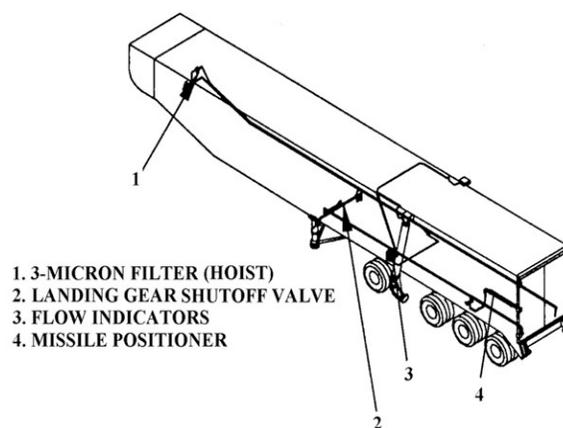

Figure 1-19. TE container hydraulic system.
The container hydraulic system (fig. 1-19) provides supply, return, and bi-directional lines for the landing gear, missile positioner (fig. 1-19, item 4), erection actuator bleed circuit, and hoist assembly. An auxiliary 6-gallon tank supplies hydraulic fluid to a hand pump that operates the missile positioner and the landing gear in the event the main hydraulic system malfunctions.